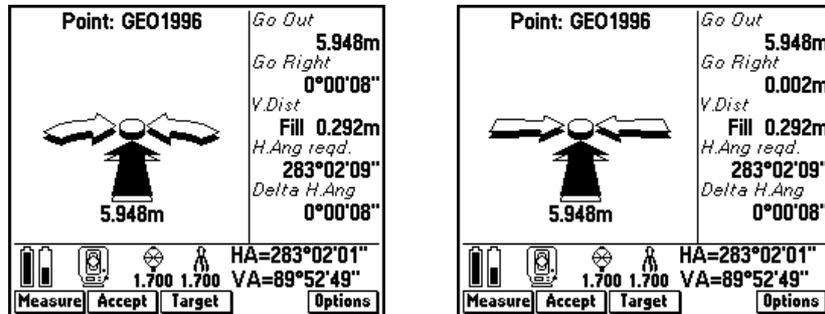

Figure 4.10 Graphical display screen – distance measurement made
10. Press **Measure**. When the distance measurement has been made, a screen similar to those shown in Figure 4.10 appears.
If the instrument is on-line, two left/right outline arrows appear. If the distance is not yet correct, a solid up/down arrow shows the direction and amount that the target must move towards or away from the instrument, as shown in Figure 4.10.